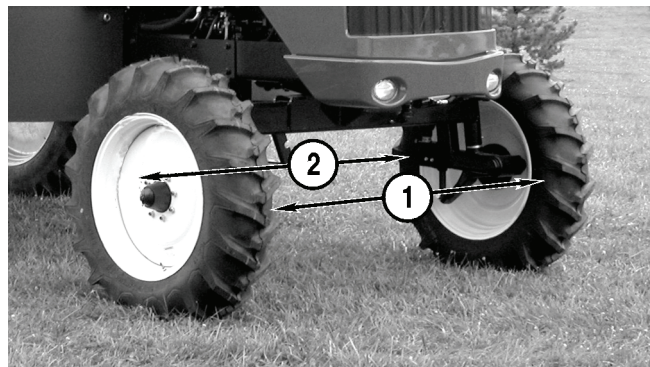

Figure 5-60
3. Measure and note the distance between the left and right front tires at the front (**Figure 5-60, 1**) of the tires and at the rear (**Figure 5-60, 2**) of the tires.
The distance at the front (**Figure 5-60, 1**) of the tires should be 0.250 in. (6.35 mm) less than the distance at the back (**Figure 5-60, 2**) of the tires.